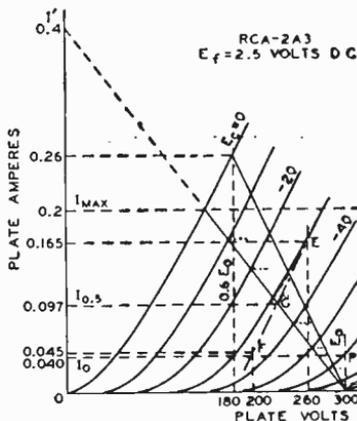
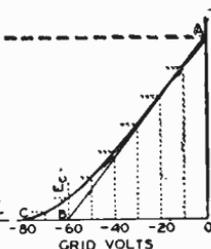

Fig. 24
Fig. 25
In class AB₁ push-pull amplifier service using triodes, the operating conditions may be determined graphically by means of the plate family if E_o , the desired operating plate voltage, is given. In this service, the dynamic load line does not pass through the operating point P as in the case of the single-tube amplifier, but through the point D in Fig. 24. Its position is not affected by the operating grid bias provided the plate-to-plate load resistance remains constant. Under these conditions, grid bias has only a small effect on the power output. Grid bias cannot be neglected, however, since it is used to find the zero-signal plate current and, from it, the zero-signal plate dissipation. Since the grid bias is higher in class AB₁ than in class A service for the same plate voltage, this "overbiased" condition permits the use of a higher signal voltage without grid current being drawn and, therefore, higher power output is obtained than in class A service.
In general, for any load line through point D, Fig. 24, the plate-to-plate load resistance in ohms of a push-pull amplifier is $R_{pp} = 4E_o/I'$, where I' is the plate current value in amperes at which the load line as projected intersects the plate current axis and E_o is in volts. This is another form of the formula, given under push-pull class A amplifiers, $R_{pp} = 4(E_o - 0.6E_o)/I_{max}$, but is more general. Power output = $(I_{max}/\sqrt{2})^2 \times R_{pp}/4$, where I_{max} is the peak plate current at zero grid volts for the load chosen. This formula simplified is $(I_{max})^2 \times R_{pp}/8$. The maximum-signal average plate current is $2I_{max}/\pi$ or $0.636 I_{max}$; the maximum-signal average power input is $0.636 I_{max} E_o$.
Example: Fig. 24 illustrates the application of the method to a pair of 2A3's operated at $E_o = 300$ volts. The tubes have a plate-dissipation rating each of 15 watts. The method is to erect a vertical line at $0.6E_o$, or at 180 volts, which intersects the $E_c = 0$ curve at the point $I_{\max} = 0.26$ ampere. Using the simplified formulas, we obtain
The operating bias and the zero-signal plate current may now be found by use of a curve which is derived from the plate family and the load line. Fig. 25 is a curve of instantaneous values of plate current and dc grid-bias voltages taken from Fig. 24. Values of grid bias are read from each of the grid-bias curves of Fig. 24 along the load line and are transferred to Fig. 25 to produce the curved line from A to C. A tangent to this curve, starting at A, is drawn to intersect the grid-voltage abscissa. The point of intersection, B, is the operating grid bias for fixed-bias operation. In the example, the bias is -60 volts. Refer back to the plate family at the operating conditions of plate volts = 300 and grid bias = -60 volts; the zero-signal plate current per tube is seen to be 0.04 ampere. This procedure locates the operating point for each tube at P. The plate current must be doubled, of course, to obtain the zero-signal plate current for both tubes. Under maximum-signal conditions, the signal voltage swings from zero-signal bias voltage to zero bias for each tube on alternate half cycles. Hence, in the example, the peak of signal voltage per tube is 60 volts, or the grid-to-grid value is 120 volts.
As in the case of the push-pull class A amplifier, the second-harmonic distortion in a class AB₁ amplifier using triodes is very small and is largely cancelled by virtue of the push-pull connection. Third-harmonic distortion, however, which may be larger than permissible, can be found by means of composite characteristic curves. A complete family of curves can be plotted, but for the present purpose only the one corresponding to a grid bias of one-half the peak grid-voltage swing is needed. In the example, the peak grid voltage per tube is 60 volts, and the half value is 30 volts. The composite curve, since it is nearly a straight line, can be constructed with only two points (see Fig. 24). These two points are obtained from deviations above and below the operating grid and plate voltages. In order to find the curve for a bias of -30 volts, we have assumed a deviation of 30 volts from the operating grid voltage of -60 volts. Next assume a deviation from the operating plate voltage of, say, 40 volts. Then at $300 - 40 = 260$ volts, erect a vertical line to intersect the $(-60) - (-30) = -30$ -volt bias curve and read the plate current at this intersection which is 0.167 ampere; likewise, at the intersection of a vertical line at $300 + 40 = 340$ volts and the $(-60) + (-30) = -90$ -volt bias curve, read the plate current. In this example, the plate current is estimated to be 0.002 ampere. The difference of 0.165 ampere between these two currents determines the point E on the $300 - 40 = 260$ -volt vertical. Similarly, another point F on the same composite curve is found by assuming the same grid-bias deviation but a larger plate-voltage deviation, say, 100 volts. We now have points at 260 volts and 0.165 ampere (E), and at 200 volts and 0.045 ampere (F). A straight line through these points is the composite curve for a bias of -30 volts, shown as a long-short dash line in Fig. 24. At the intersection of the composite curve and the load line, G, the instantaneous composite plate current at the point of one-half the peak signal swing is determined. This current value, designated $I_{0.5}$ and the peak plate current, I_{max} , are used in the following formula to find peak value of the third-harmonic component of the plate current.